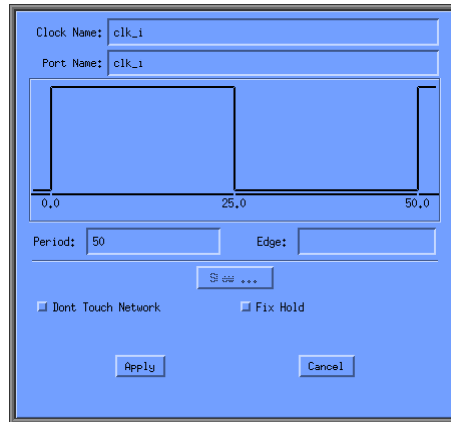

Fig. 5: Defining clock
2. Select Attributes \Rightarrow Clocks \Rightarrow Specify (see Fig. 5). Enter clock period in nanoseconds. Un check Don't Touch Network. This will force DC to insert clock tree buffers if needed to meet the design optimization requirements.